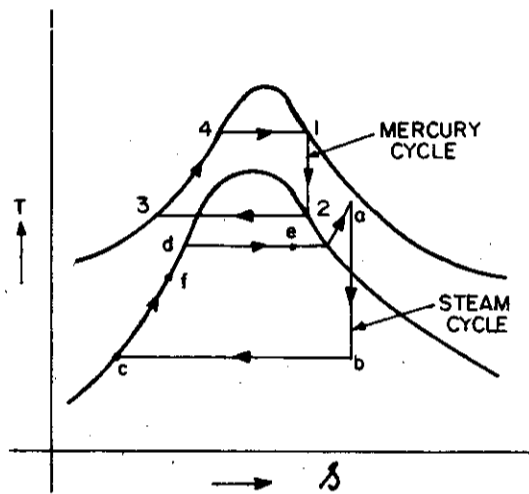

Fig. Prob. 22.20.
**Solution.** The working of the binary cycle is represented on  $T-s$  diagram as shown in Fig. Prob. 22.20.